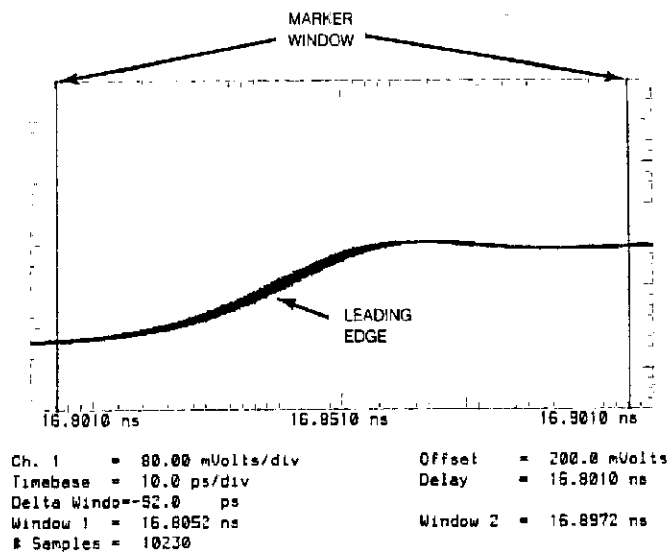

Figure 15-5. Leading Edge
- adjust **DELAY** until the incident pulse is at center screen by rotating the knob slowly ccw. The waveform should resemble figure 15-5 on the next page.